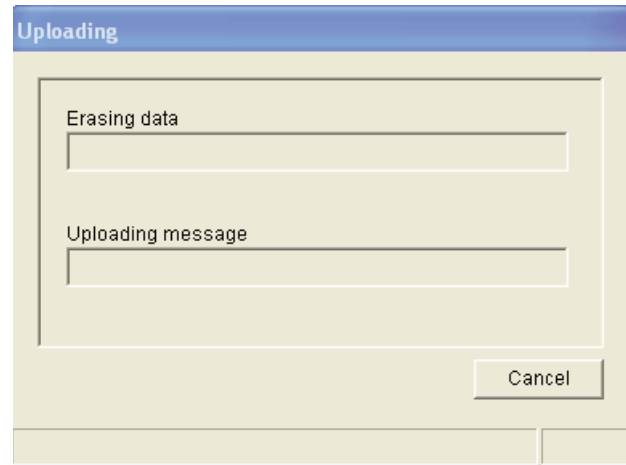

figure 8.17: Uploading data to the Plena Weekly Timer
- 2 Click Upload configuration. The following window will appear (see figure 8.17) showing that uploading is taking place. When uploading is complete, this window will close.